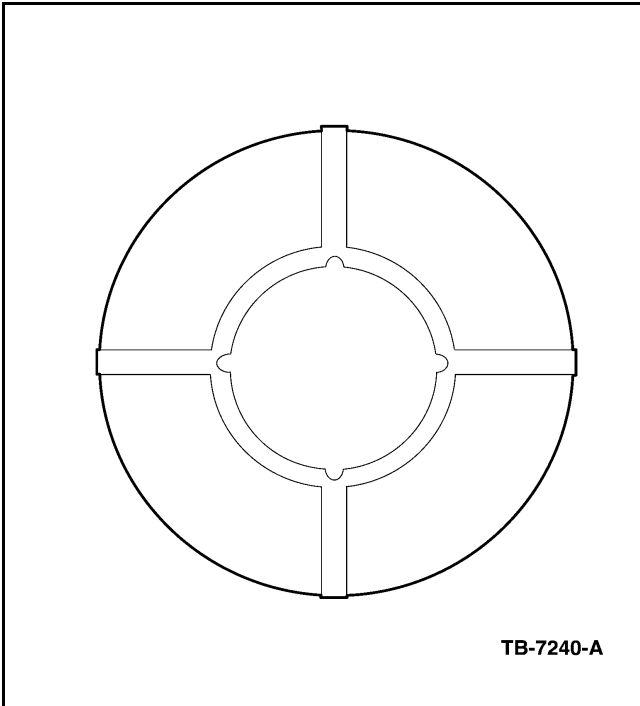

Figure 1 - Article 03-14-3
3. File four (4) 1/8" to 1/4" "KEYWAYS" into the inside diameter of the thrust washer (Figure 1).